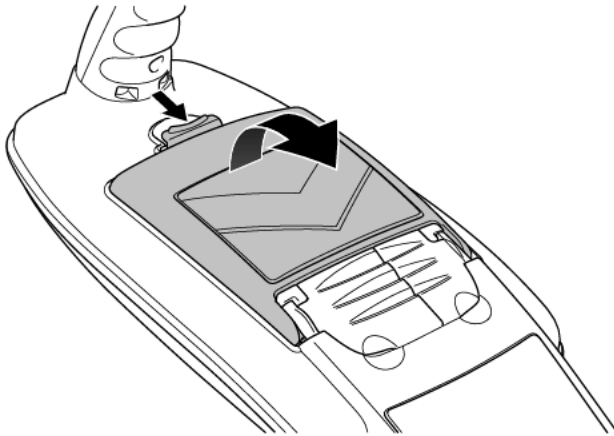

Figure 4.1: Open the battery compartment
- 1 Open the battery compartment using the release catch (refer to Figure 4.1: Open the battery compartment).